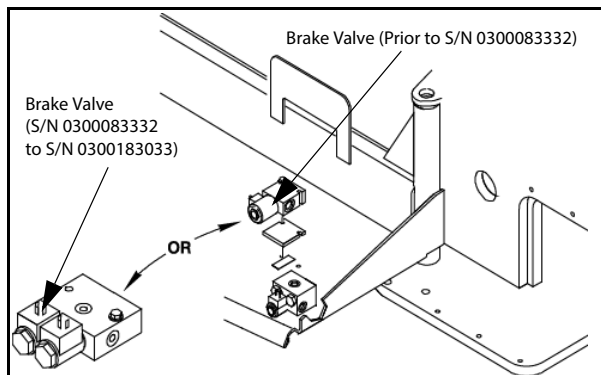

Figure 3-2. Brake Valve Wiring Connection
- Reinstall the brake wires. See Figure 3-2.